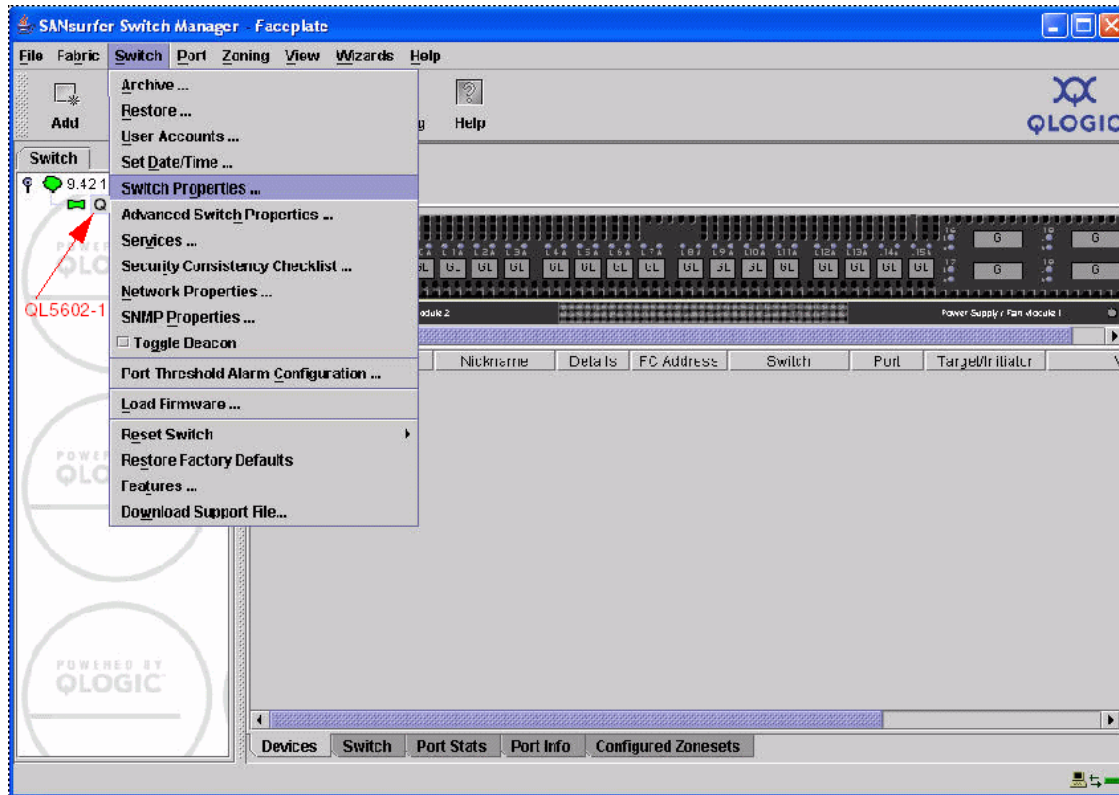

Figure 7-5 SANsurfer Switch Manager- Faceplate window
- From the Topology window in the left pane, click the drop-down tree. Click to select your switch (in our example, QL5602-1). Select **Switch** → **Switch Properties...** (Figure 7-5).